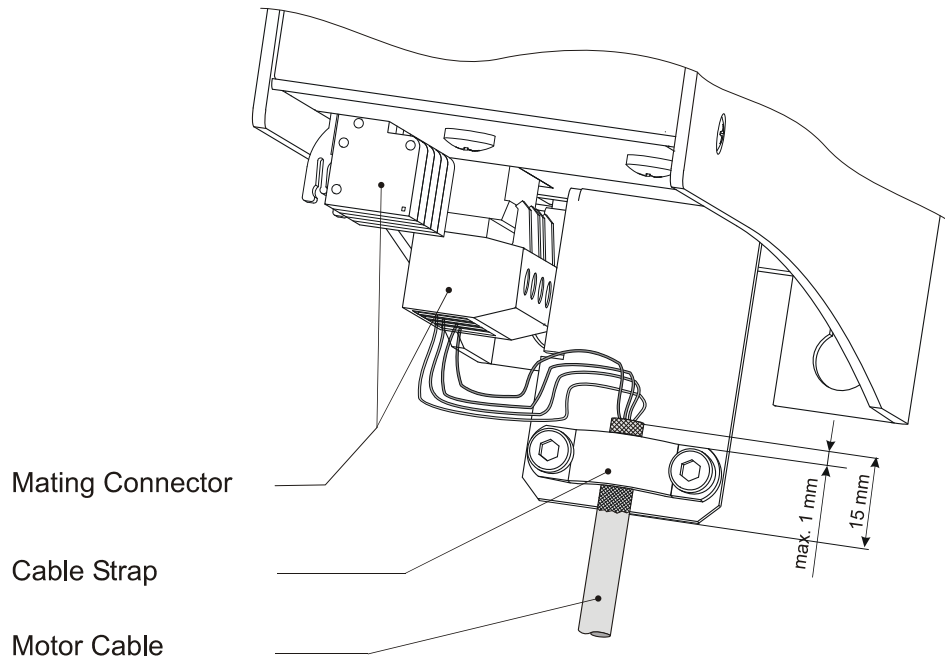

Fig. 3: EMC-compatible connection of motor cables
Fix the cable strap serving as strain relief and motor cable shield next to connector X62 (see fig. 3, page 22).
- Connect the motor leads according to fig. 3, page 22.